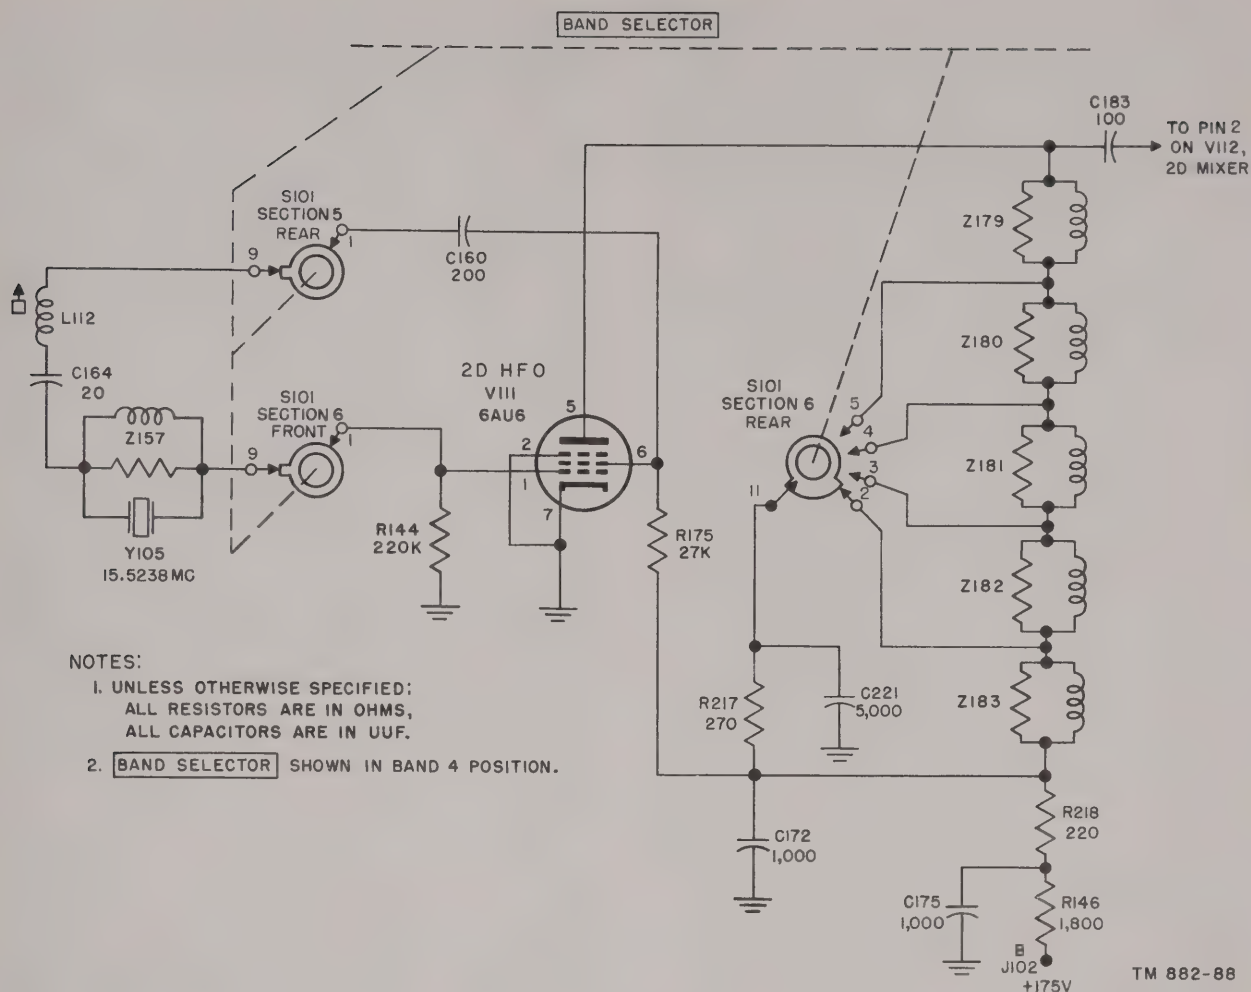

Figure 46. Second hfo.
(2) *Bands 4, 5, 6, and 7* (fig. 46). On bands 4, 5, 6, and 7, the circuit differs considerably from that on bands 1, 2, and 3. Coupling to the second mixer is the same, and the functions of R175, R144, and the plate impedances (Z179 through Z183), remain unchanged, but here the crystal oscillates at its natural or series-resonant frequency. On band 4 the inductance of Z157 cancels the capacitance of the crystal and holder and damps any tendency of the crystal to operate in a spurious mode. The shunt resistance of Z157 further aids the damping action. The series resonant circuit consisting of C164 and L112 acts as a selective feedback path allowing feedback to occur only in the vicinity of the desired oscilla-